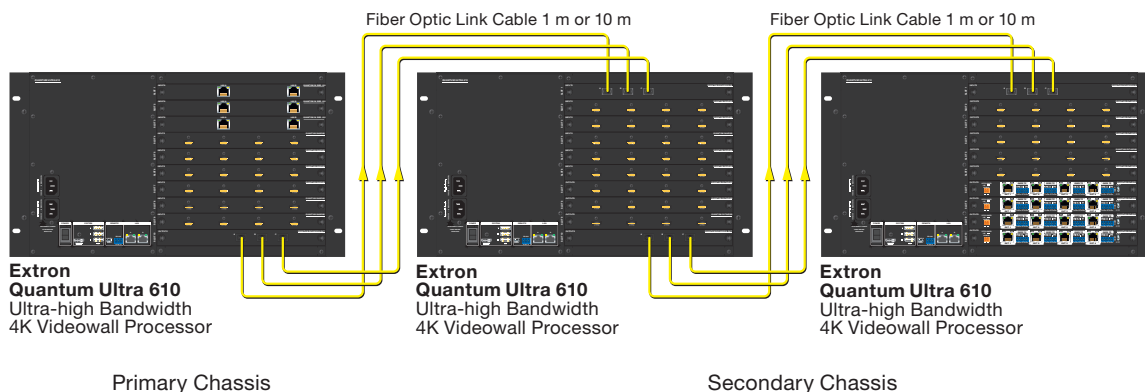

Figure 4. Expansion Card Connection
1. Connect three MPO cables between **Expansion OUT card** connectors A, B, and C of the **primary** chassis and **Expansion IN card** connectors A, B, and C of the **first secondary** chassis in the chain. Always connect output A to input A, output B to input B, and output C to input C (see figure 4 on page 5).
2. Connect the three expansion outputs of each subsequent secondary chassis to the expansion inputs of the next chassis until all the desired chassis (up to five) are connected (figure 4).